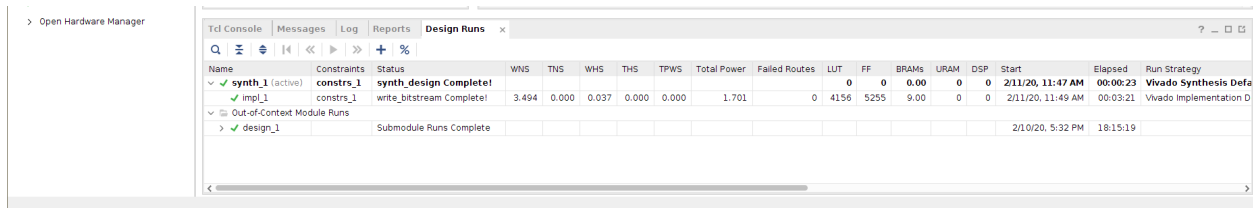
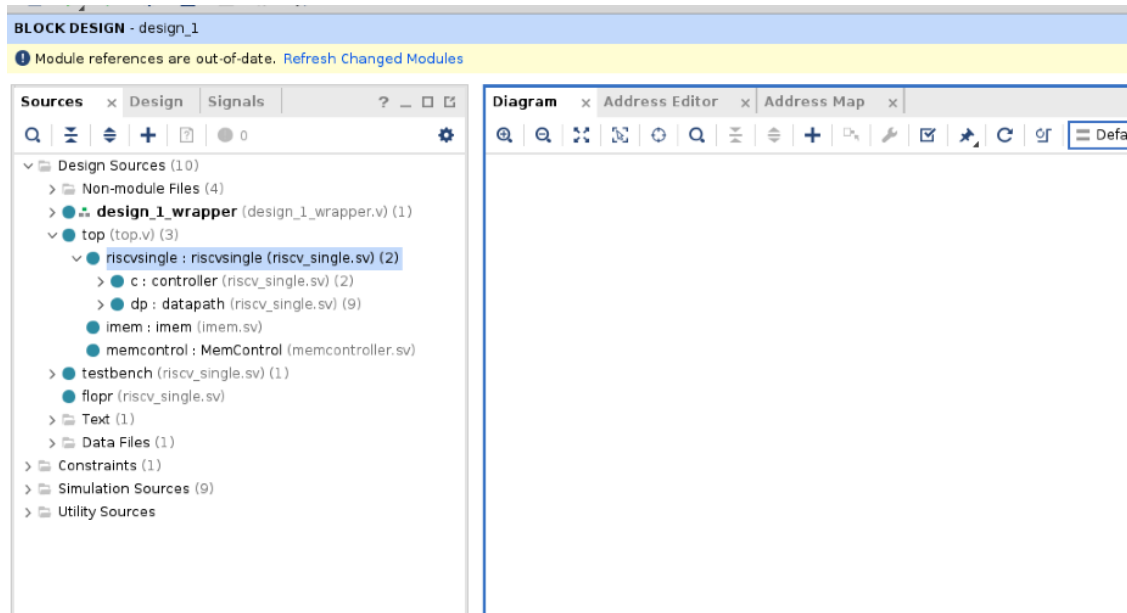
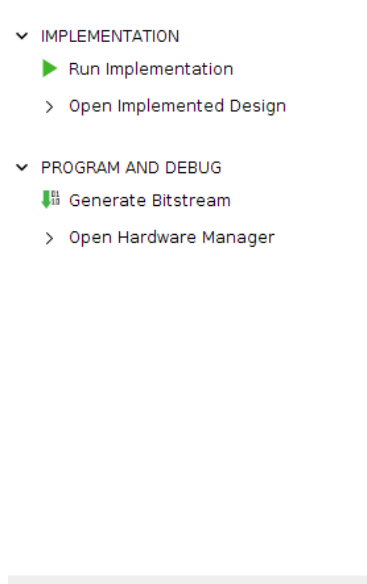

Figure 2: Bottom Panel with Tcl Console, Messages, etc.
Figure 4: Refresh Changed Modules Banner
Figure 5: Generate Bitstream under Program and Debug
which is where we will run our script (i.e., Figure 2).
All of these steps are automatic when you run the script and will chain into each other so long as no errors occur during any steps. **Again, this is why you do not want to start using the FPGA until your simulation works - errors here take longer to find and are often more complicated to solve than if you had found them in your simulations in ModelSim.** These steps might take some time to run (approximately 5 minutes) - you can view their progress in the Design Runs tab on Figure 2
If you run into errors or issues here, go to the Messages tab in Figure 2 where messages, warnings, and errors are stored and see what happened, or delve even deeper in the Log tab where the output from the toolchain is directly stored.
Anytime you make a change to the file and save it, a message will appear along the top of the screen that the Module References are Out-of-Date (i.e., Figure 4). Like what the script was doing, you've changed the module, but the other modules that connect to the RISC-V core haven't had a chance to refresh themselves and update their references. Clicking Refresh Changed Modules on that message will update the project index and refresh all references. You can then run the toolchain just like the script did by clicking Generate Bitstream on the bottom-left panel (i.e., Figure 5). A window will pop up letting you know that Synthesis is out-of-date and that will need to run first - answer Yes so all required steps will run first. Then, the Launch configuration window will open where you can set details about how the toolchain will run. Leave these at the defaults and click OK. Go to the Design Runs tab in Figure 2 to see each step's progress while waiting for them to complete (approximately 5 minutes).
6. Once Bitstream Generation is complete, a window will pop up asking what you would like to do next (i.e., Figure 5). Select Open Hardware Manager and click OK. If you accidentally close this window or select something else, you can easily get to the hardware manager using the Open Hardware Manager button below Generate Bitstream in Figure 5.
- Refresh Changed Modules using the button on the top banner (i.e., Figure 4).